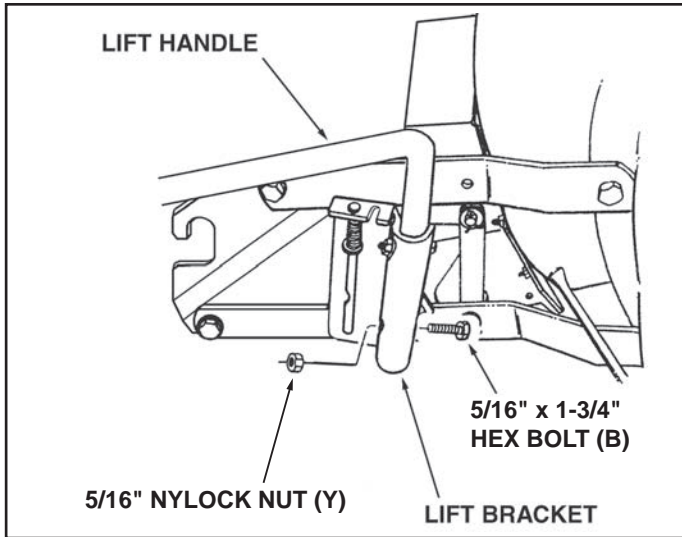

FIGURE 47 RIGHT SIDE VIEW
STEP 48: (SEE FIGURE 47)
- Place the lift handle into the lift bracket on the right side of the snow thrower. Fasten the handle to the bracket using two 5/16" x 1-3/4" hex bolts (B) and 5/16" Nylock nuts (Y).